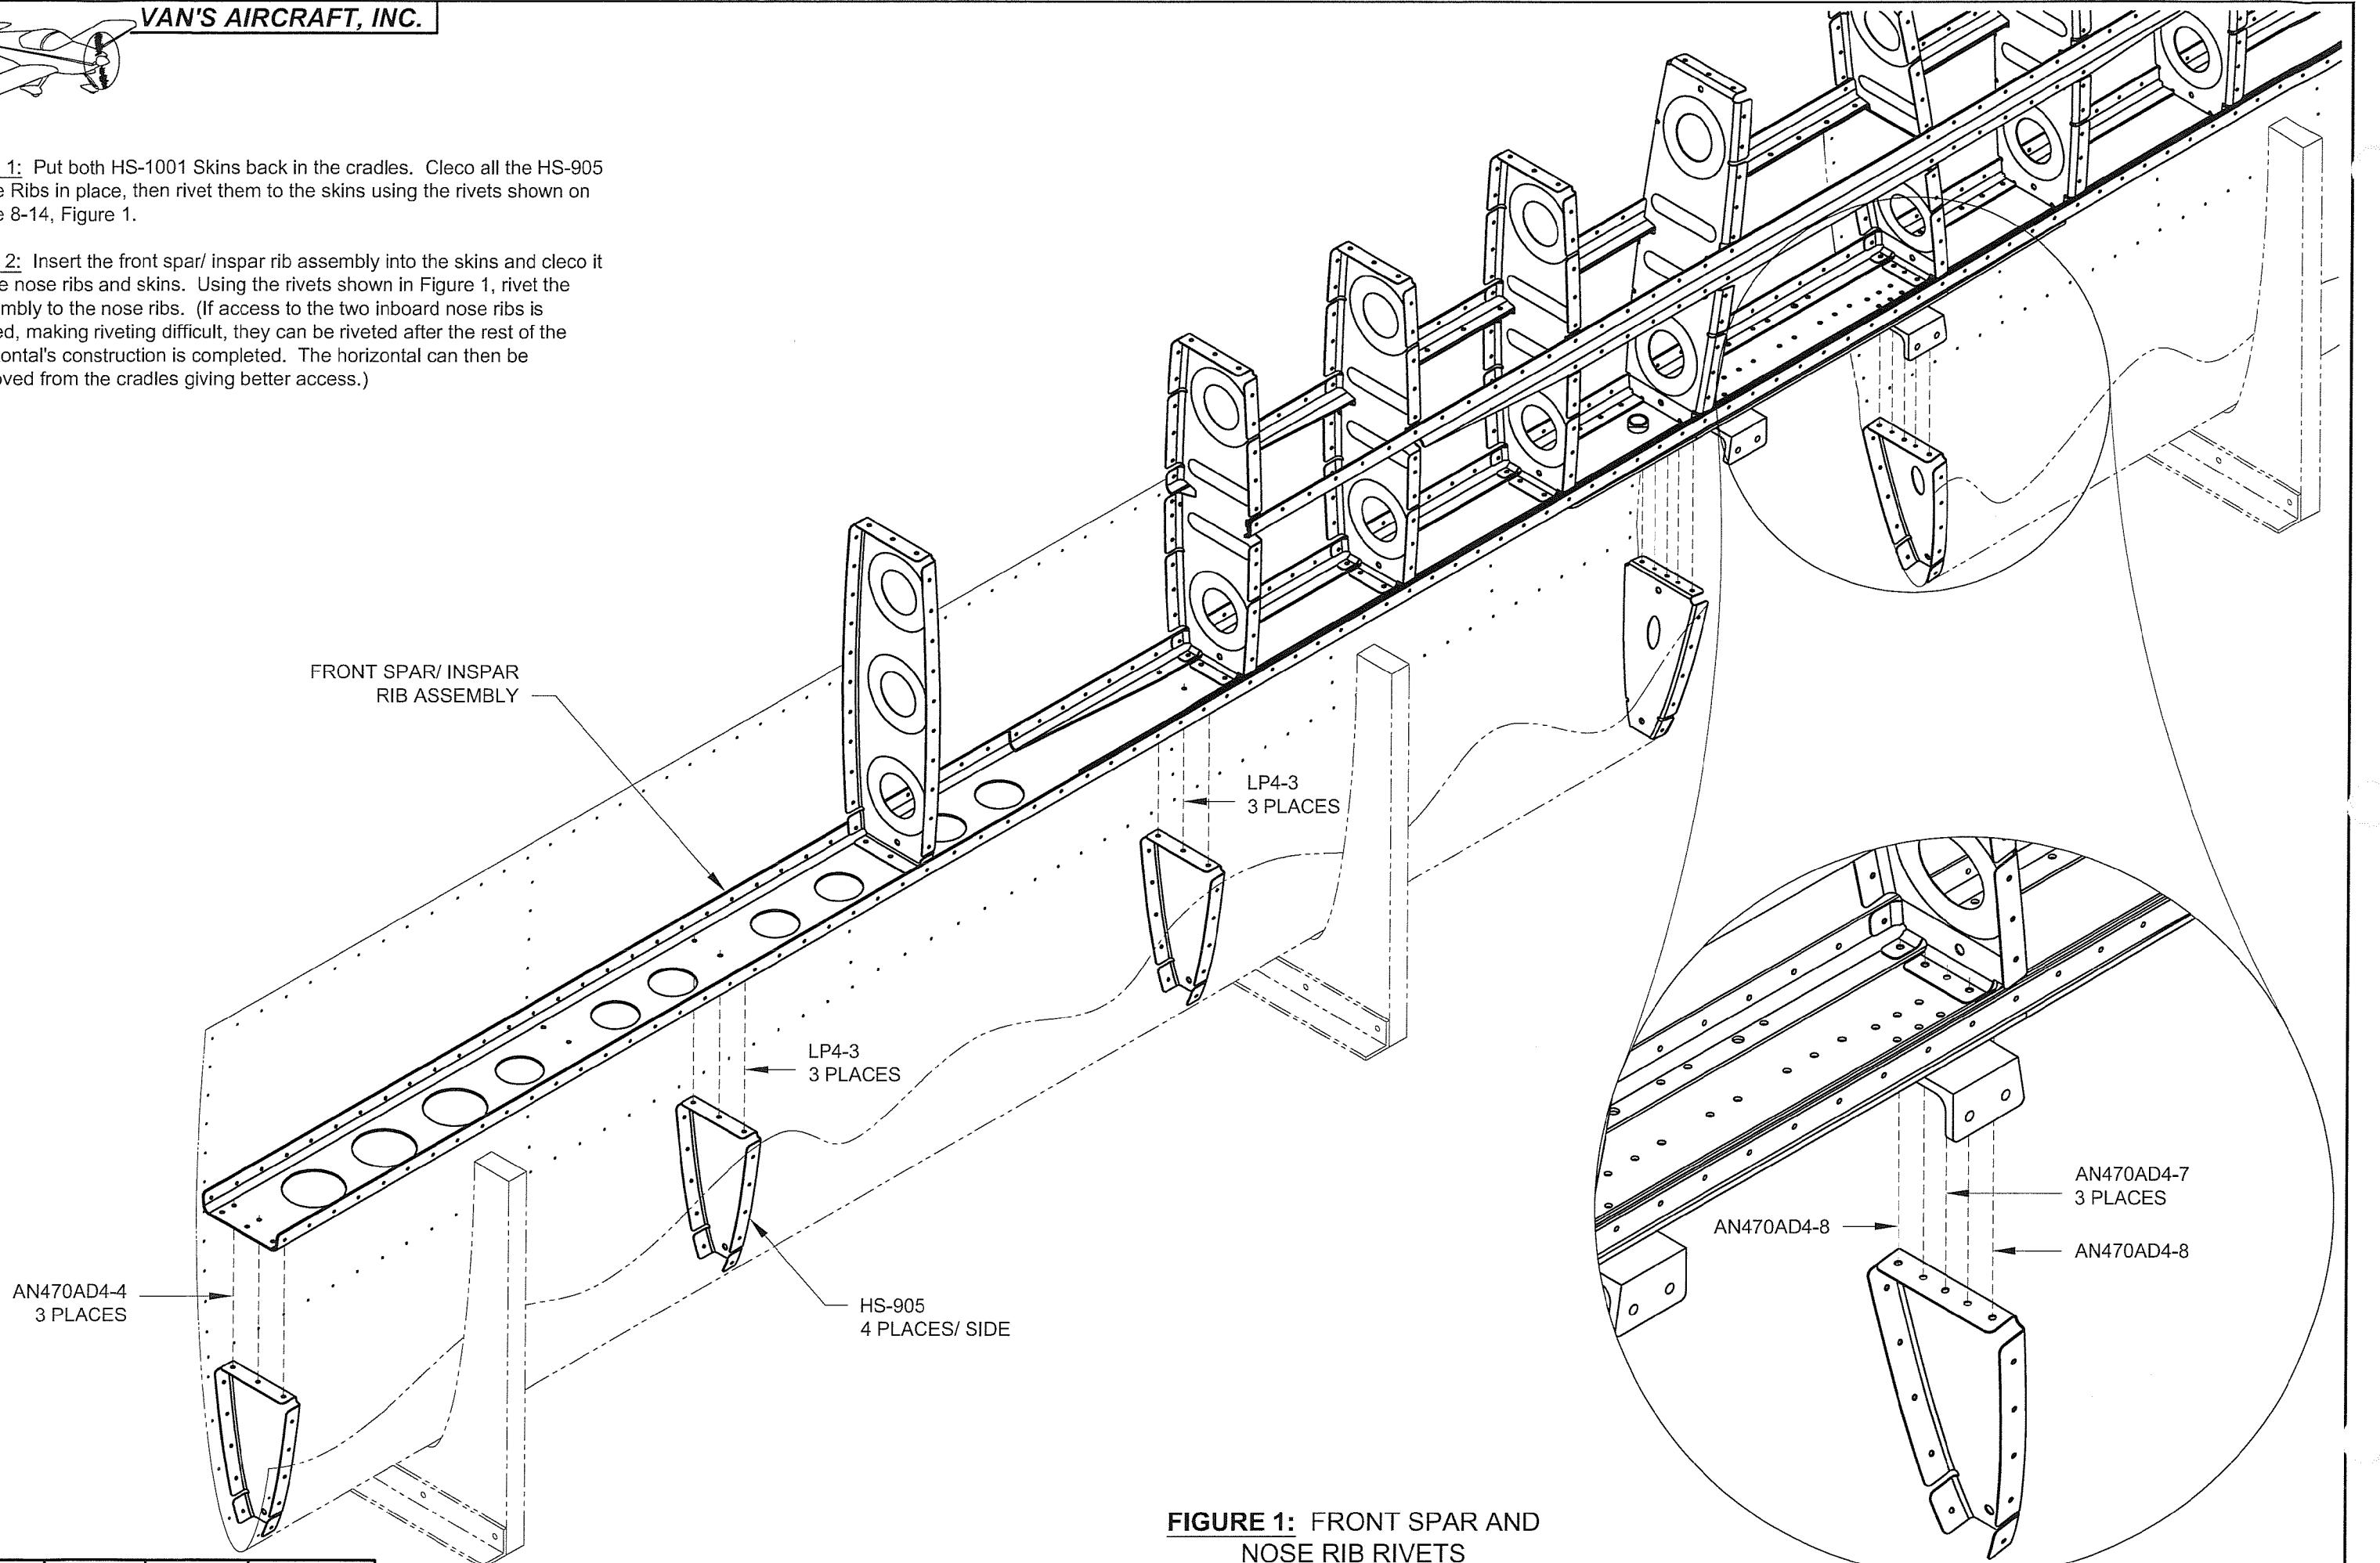

FIGURE 1: FRONT SPAR AND
Step 2: Insert the front spar/ inspar rib assembly into the skins and cleco it to the nose ribs and skins. Using the rivets shown in Figure 1, rivet the assembly to the nose ribs. (If access to the two inboard nose ribs is limited, making riveting difficult, they can be riveted after the rest of the horizontal's construction is completed. The horizontal can then be removed from the cradles giving better access.)
Step 1: Using the rivets shown in Figure 1, rivet the last two HS-904 Inspark Ribs, on each side of the stabilizer, to the HS-1002 Front Spar web.
NOTE: The rivets used for the rest of the horizontal stabilizer can be found on Page 8-14, Figure 1.